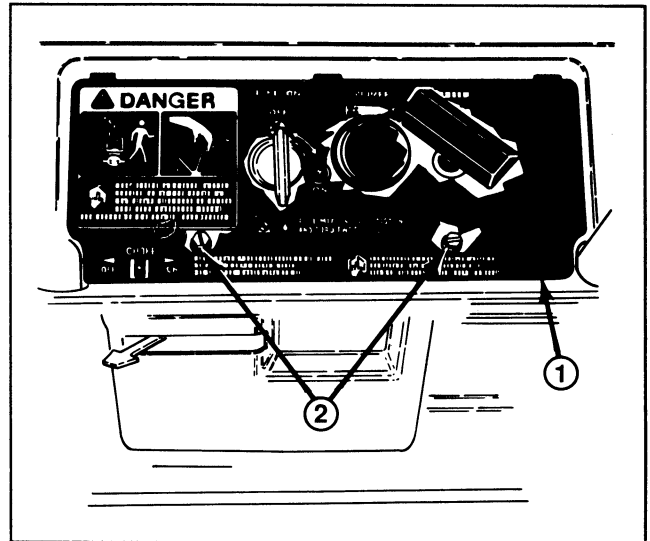

Figure 14
REPLACING SPARK PLUG (Figs. 14–16)
1. **REMOVE CONTROL PANEL** (Fig. 14) – Remove (2) screws securing control panel to housing. Remove ignition key and lift off panel, allowing it to hang on recoil rope.